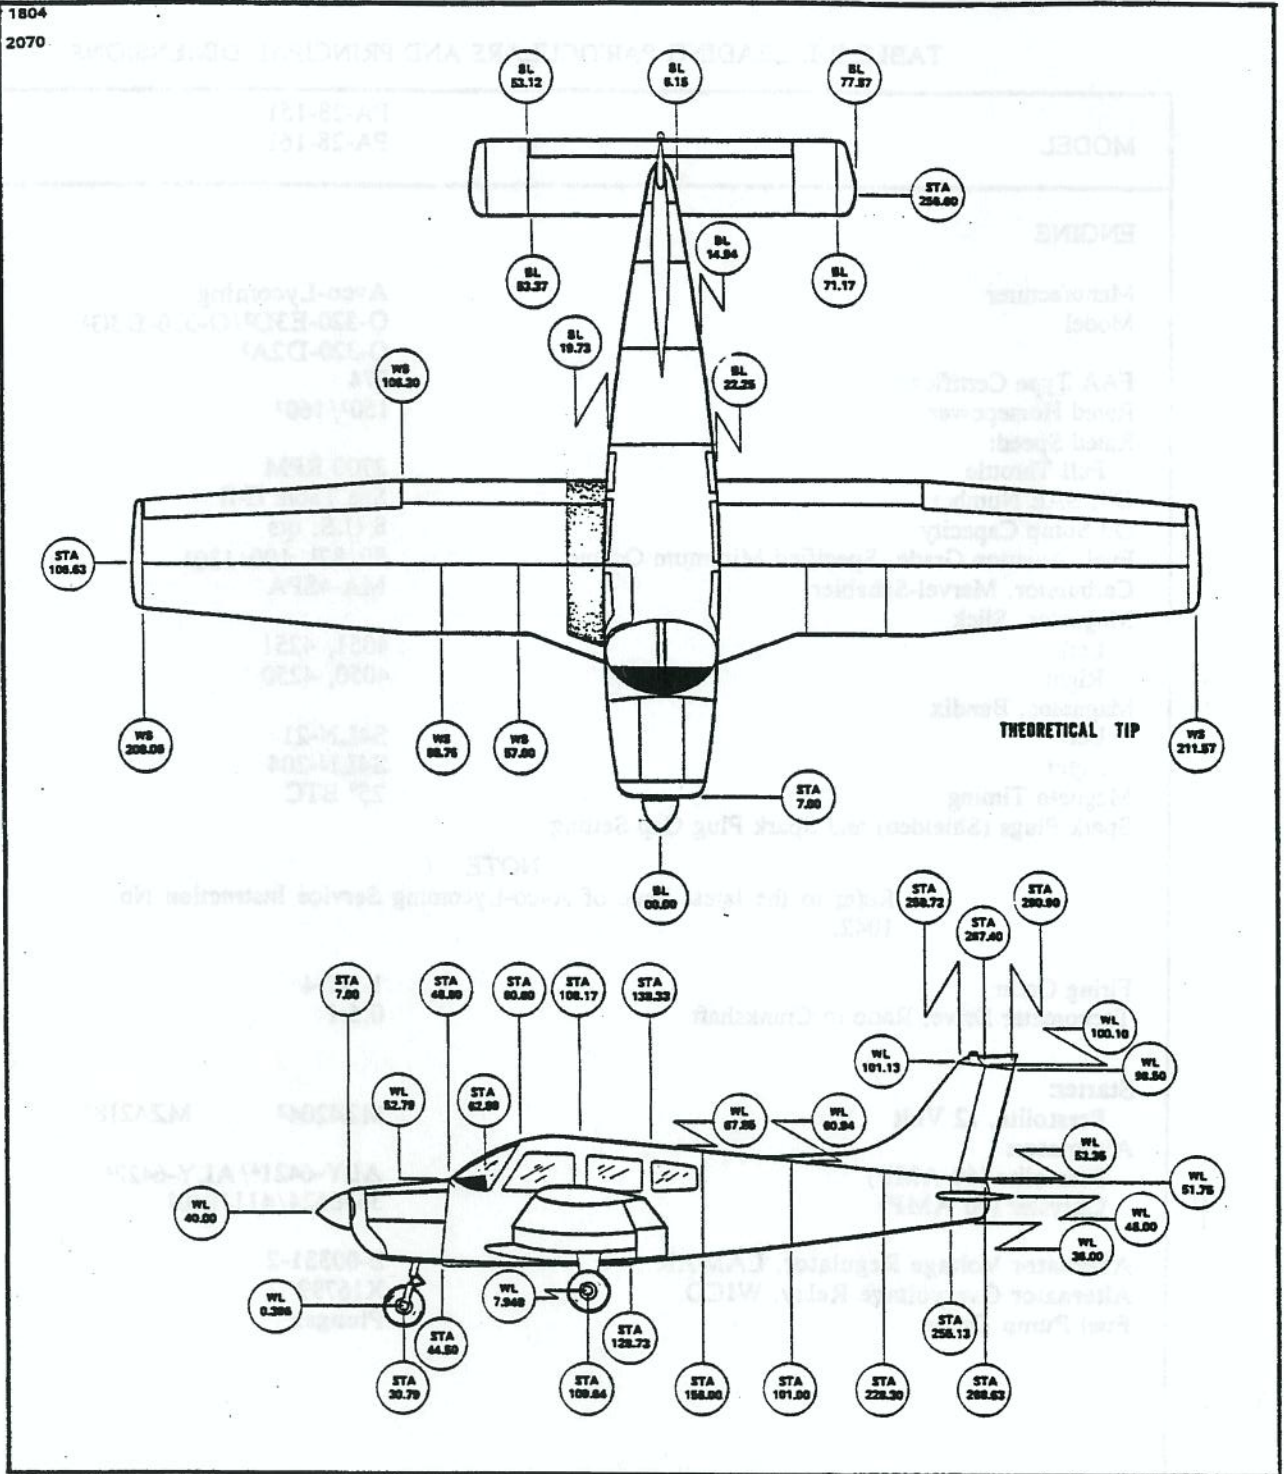

Figure 2-2. Station Reference Lines
**2-3. STATION REFERENCE LINES.** In order to facilitate the location of various components of the airplane which require maintenance and servicing, a method utilizing fuselage station (Sta.), wing station or buttock line (BL), and waterline (WL) designations is frequently employed in this manual. (Refer to Figure 2-2.) Fuselage stations, buttock lines, and waterlines are reference points measured by inches in the vertical or horizontal direction from a given reference line which indicates station locations of structural members of the airplane. Station 0 of the fuselage is 44.5 inches ahead of the lower edge of the fire wall; station 0 (BL) of the wing and stabilator is the centerline of the airplane; and station 0 (WL) of the fuselage vertical stabilizer and rudder is 20.5 inches below the cabin floor as measured at the rear wing spar with the airplane level. The reference datum line is located 78.4 inches ahead of the wing leading edge at the intersection of the straight and tapered section.